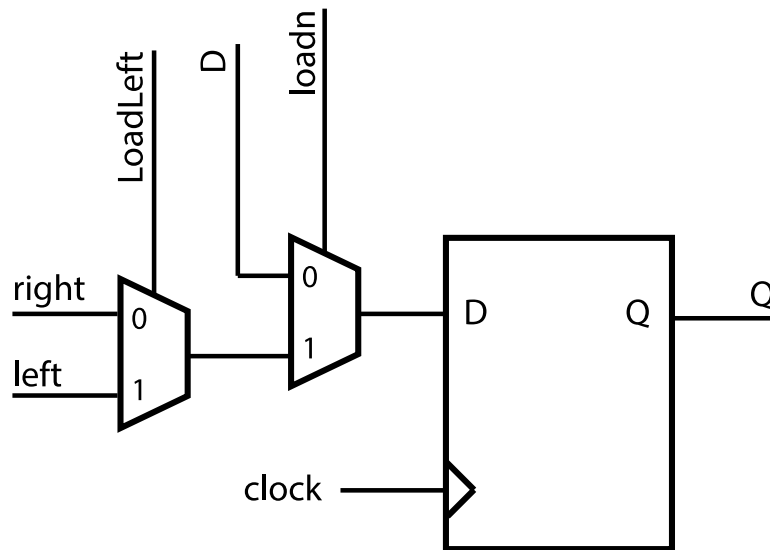
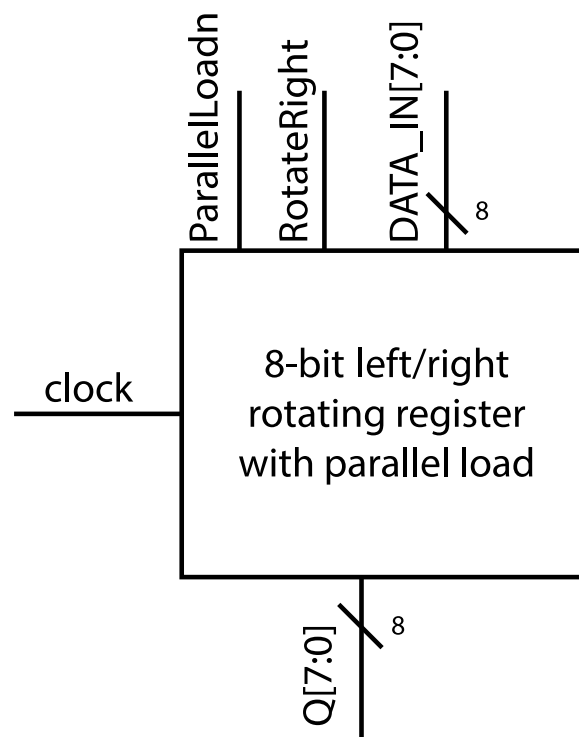

Figure 3: Sub-circuit for Part II.
Figure 4: Top-level circuit for Part II.
Figure 3 shows a positive-edge-triggered flip-flop with several multiplexers. In this part of the lab, you will use eight instances of the circuit in Figure 3 to design a left/right 8-bit rotating register with parallel load shown in Figure 4. The *LoadLeft* input of all eight instances of the circuit in Figure 3 should be tied to a single rotating register input *RotateRight* because when you want to rotate the bits right, you have to load the bit to the left. The *loadn* input of all eight instances should be tied to a single rotating register input *ParallelLoadn*. The *clock* input of all eight instances should be tied to a single rotating register input *clock*. Create an 8-bit-wide rotating register input *DATA_IN*, whose individual wires *DATA_IN[7]* to *DATA_IN[0]* are tied to the *D* input of each instance of the circuit in Figure 3. Likewise, create an 8-bit-wide rotating register output *Q*, whose individual wires *Q[7]* to *Q[0]* are tied to the *Q* output of each instance of the circuit in Figure 3.
The remaining connections between the eight instances of the circuit in Figure 3 should realize the following behaviour:
Figure 4 shows the inputs and outputs of the top-level left/right rotating register circuit with parallel load, which will contain eight instances of the circuit in Figure 3.
1. Draw a schematic for the 8-bit rotating register with parallel load. Your schematic should contain eight instances of the circuit in Figure 3. Label the signals on your schematic.
3. Write a Verilog module for the circuit in Figure 3.